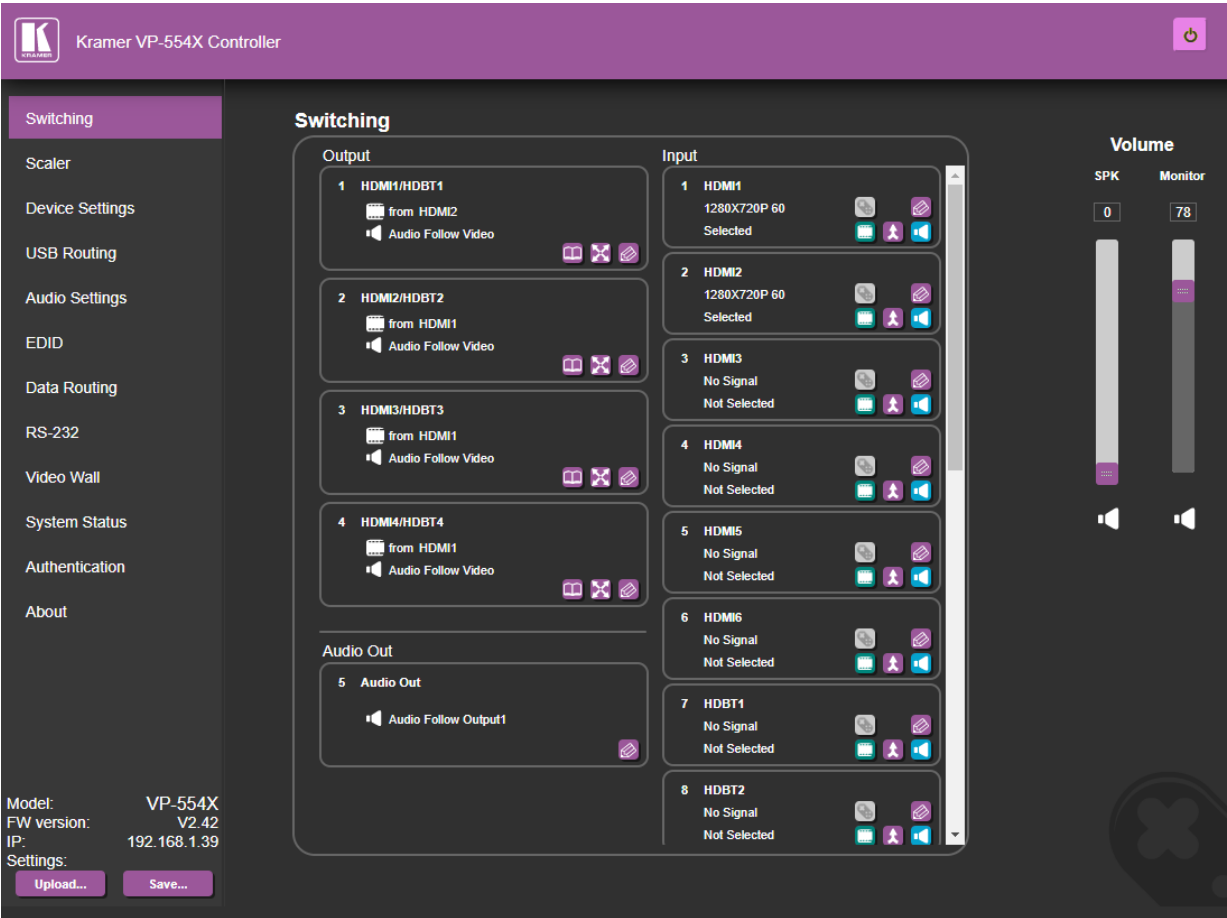

Figure 14: Switching Page with Navigation List on Left
1. In the Navigation pane, click **Switching**. The Switching page appears (Figure 14).
The Switching page appears (Figure 14).